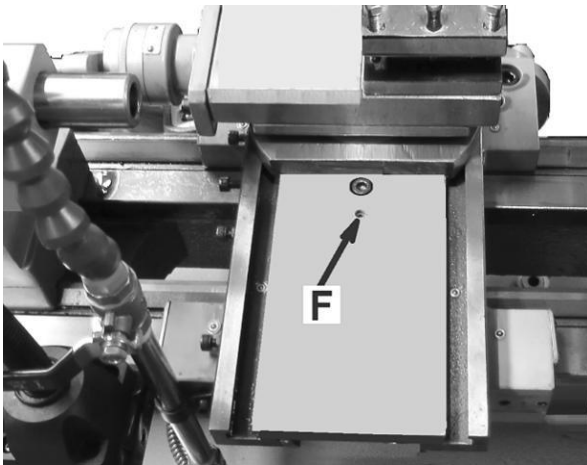

*Figure 11-3: Slide adjustment*
Each slide is fitted with a gib (C, Fig 11-3) and can be adjusted with screws (E) fitted with lock nuts (D).